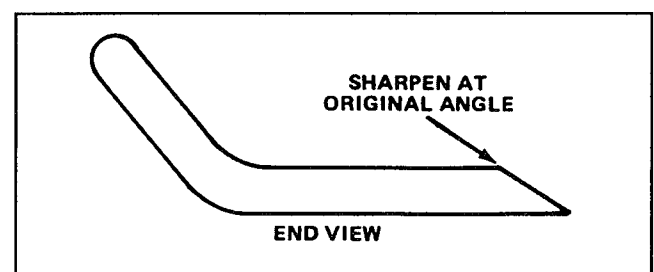

Figure 62
3. Examine cutting edges of all blades. Sharpen cutting edges that are dull or nicked. To assure sharpness, sharpen only the top side of the cutting edge while maintaining the original cutting angle (Fig. 62). If the same amount of metal is removed from both cutting edges, the blade will remain balanced.